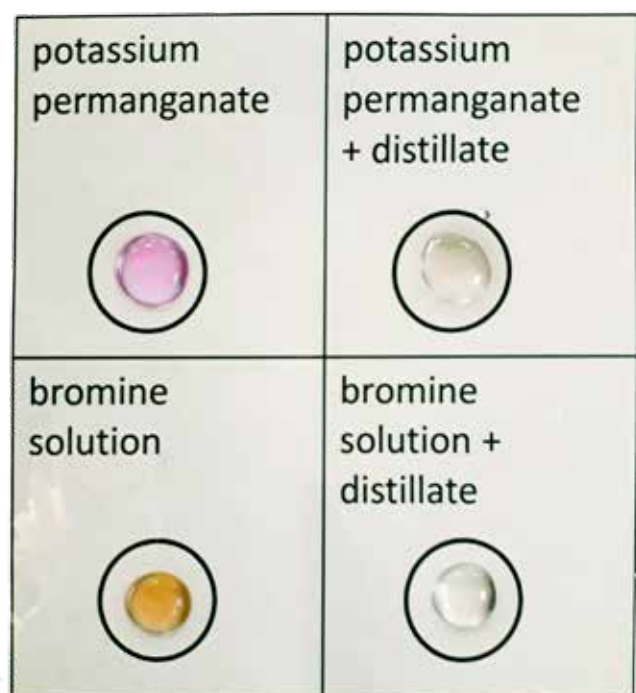

Figure 6: The essential oils decolourise potassium permanganate and bromine solutions, indicating the presence of unsaturated carbon-carbon bonds
1. Using a dropping pipette, add one drop of potassium permanganate solution to two separate wells of a spotting tile. Alternatively, you can use a laminated worksheet with pre-labelled circles, which is available to print from the *Science in School* website^{w1} (figure 6). If using the worksheet, add the drops of solution to the two circles labelled 'potassium permanganate'.